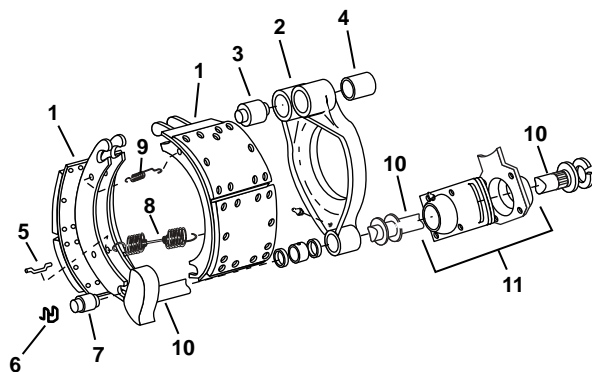

Figure 27. Brake Components
Grease the anchor pins, camshaft bracket bearing and the spider busing at four (4) grease fittings. Do Not use an excessive amount of grease on the anchor pins and spider bushing. Avoid getting grease on the brake lining surfaces. (See Figure 27)